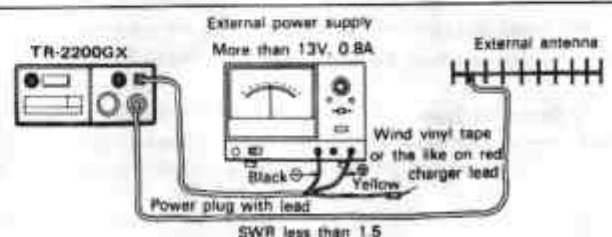

Fig. 11 Connection of External Power Supply and External Antenna
1. For fixed station operation, it is recommended that an external power supply be employed, though internal batteries may also be used. The external power supply has an advantage of eliminating the need for checking the power voltage. When using the external power supply, connect it to the unit using the supplied power cord as shown in Fig. 11. The ratings of external power supply should be 13V DC, 0.8A or higher.